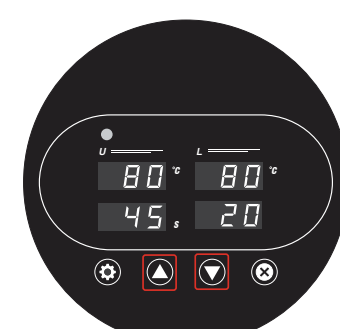

Fig. 6
6. Press Up  or Down  buttons to select the desired time in seconds (Fig. 6).